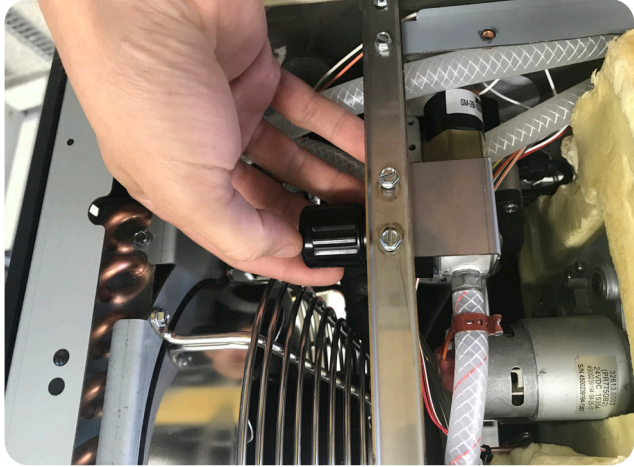

Fig. 1
2. Remove right side panel and locate adjustment knob of gas regulator. Fig. 1